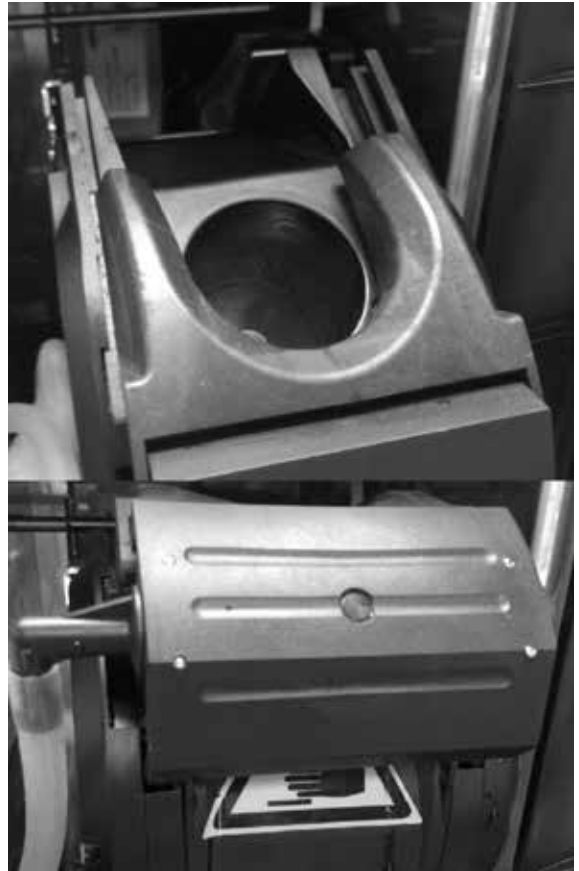

Figure 4
6. Rotate the top of group head toward rear of machine until it snaps into place as shown in Figure 4.